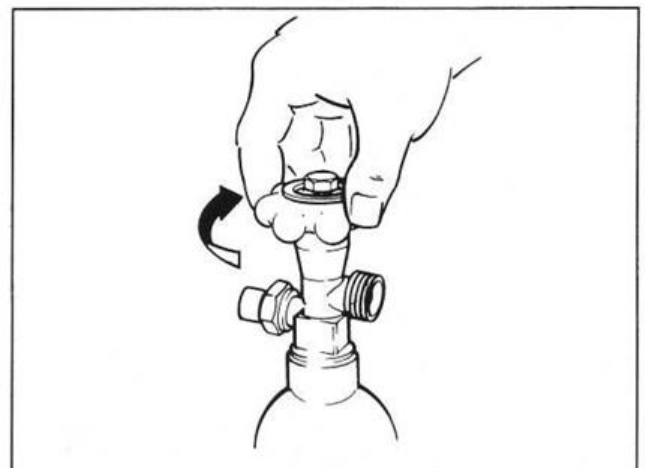
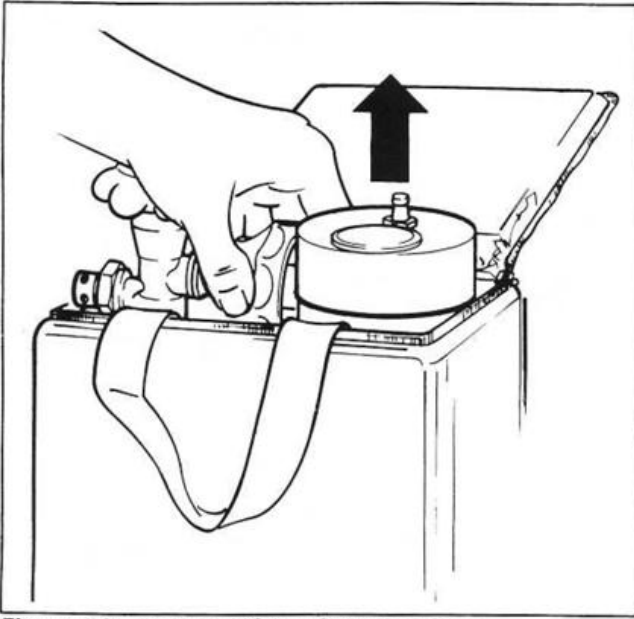
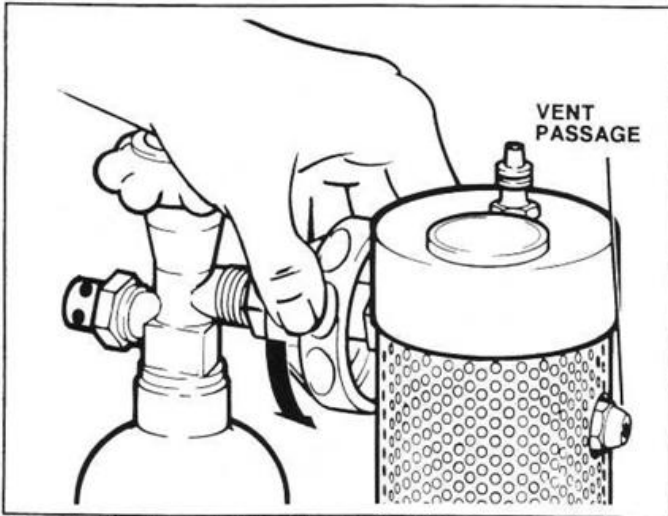

Figure 9. Valve Knob Fully Closed.
Figure 10. Removal from Carrying Case.
Figure 11. Separating the Cylinder.
1. Make sure the nitrous oxide cylinder valve is in a fully closed position by turning the valve knob (Figure 9) clockwise until it stops. Ensure that the oxygen supply to the unit is off and disconnected.
2. Remove the mixer assembly from the carrying case as shown in Figure 10.
3. Hold the assembly in the upright position and slowly unscrew the large hand-wheel by turning it counterclockwise as shown in Figure 11.
1. Follow **Section 2.4**, close cylinder valve (Fig.9), remove mixer assembly from case (Fig.10), separate cylinder (Fig.11).